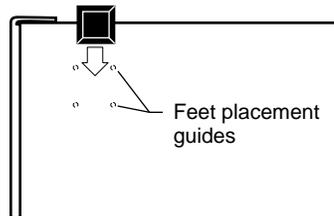

Figure 2-3. Attaching Feet
1. **Peel off the protective backing from the rubber feet and apply one at each marked location on the bottom of the Model 28xx (see Figure 2-3).**